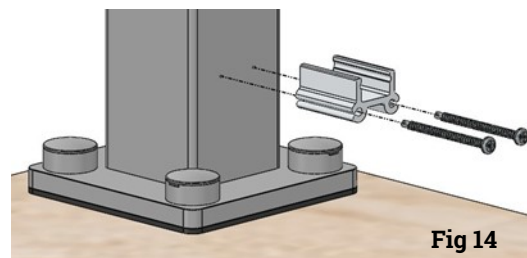

Fig 14
- Using a 1/8" drill bit (7), pre-drilled pilot holes in the post (3) for the top and bottom RCBs (8) as indicated by the markings made in the previous step. Use touch-up paint to coat exposed aluminum inside the drilled holes and protect from corrosion.
- Mount the bottom rail RCB (8) to the post as shown in Figure 14 and fasten using #8 x 2" Hex Washer Tek Screw (21). Do not overtighten.